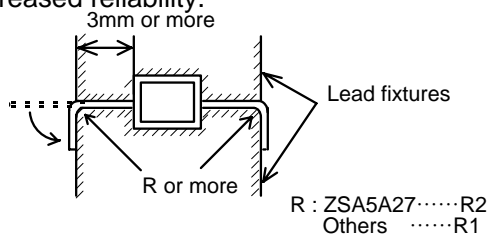

Fig.2 Lead bending fixture
- c) Any lead should be bent though a radius of at least 1mm (2mm for ZSA5A27). As shown in Fig.2, it is recommended to form the leads with a specified fixture.
(2) Tension
(3) Torsion